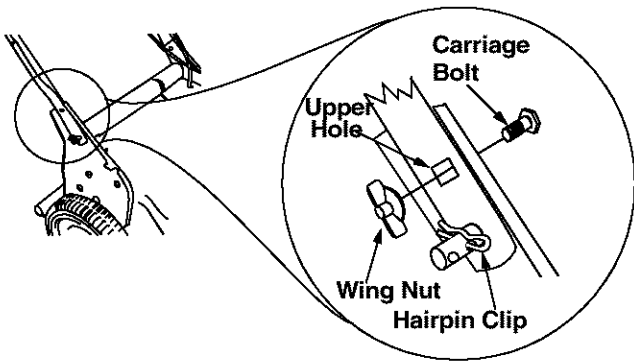

Figure 6
- After you have moved the hairpin clips, place one carriage bolt (included in the hardware pack) in the upper hole of the right handle mounting bracket from the inside outward. See Figure 6. Secure with one plastic wing nut. Repeat process on the left.